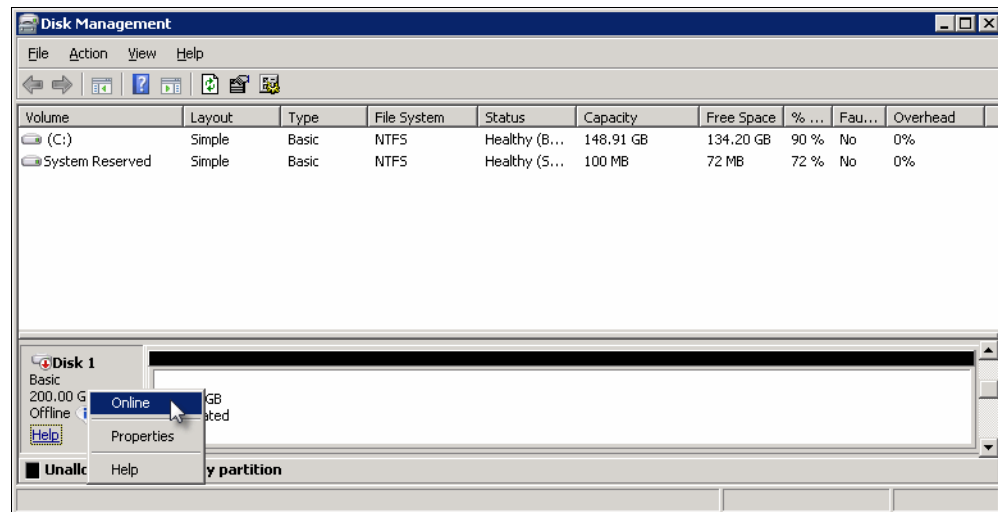

Figure 5-34 Place a disk online
- Right-click the disk in the left pane and select **Online** if the disk is not online already, as shown in Figure 5-34.